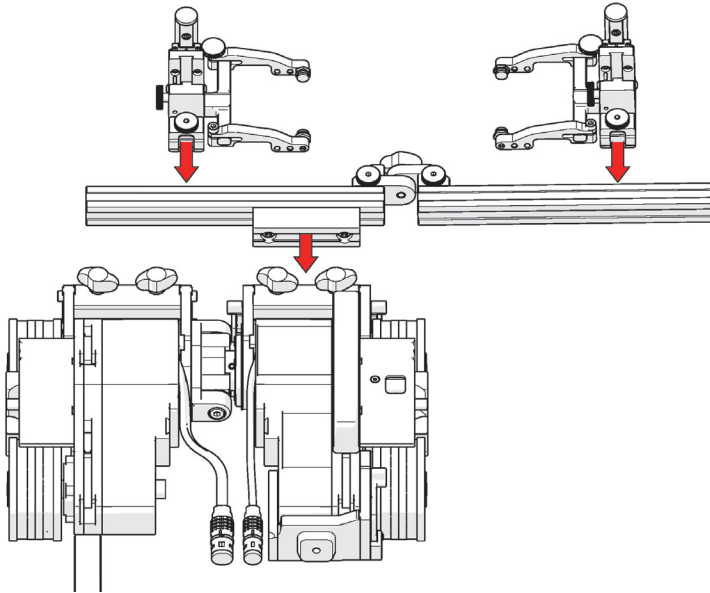

Figure 2-116 Configure assembly and mount to SteerROVER
1. Disassemble the pivoting probe holder frame to achieve the setup shown in Figure 2-116 on page 138. Ensure proper placement of the frame bar with the attached mounting point in relation to the SteerROVER scanner.